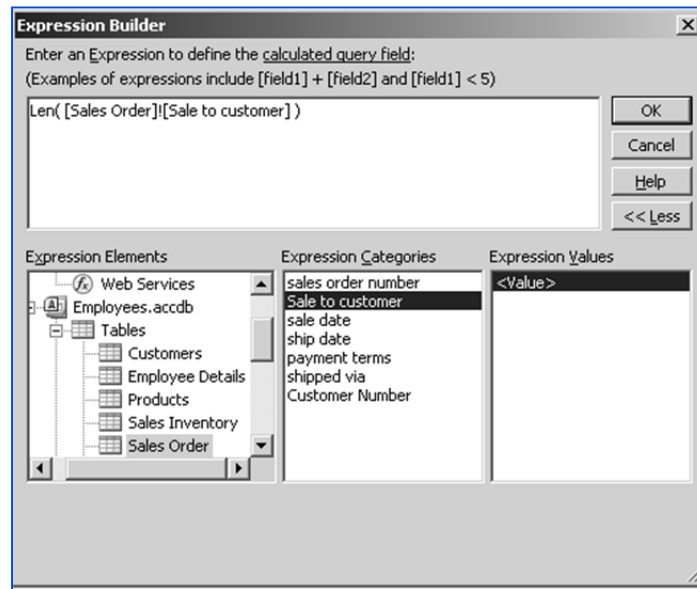

Fig. 3.5.7. Place the required column as function argument
9. Select the *string* argument of the *Len ()* function and Double click to *Paste the argument in Len() function*. The column Name (*Sale to Customer*) will be pasted in place of *string*, the *Expression Builder* looks like as in Fig. 3.5.7.